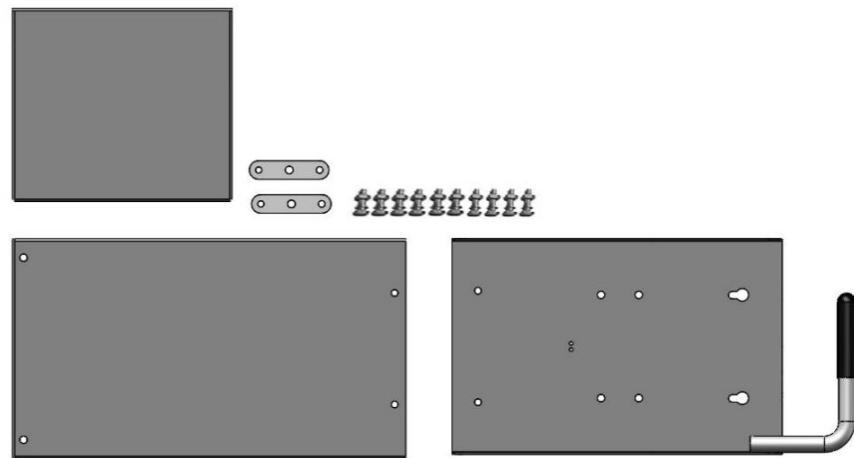

Fig.5
3. Open the carton of power unit stand and check the parts .(See Fig. 5).